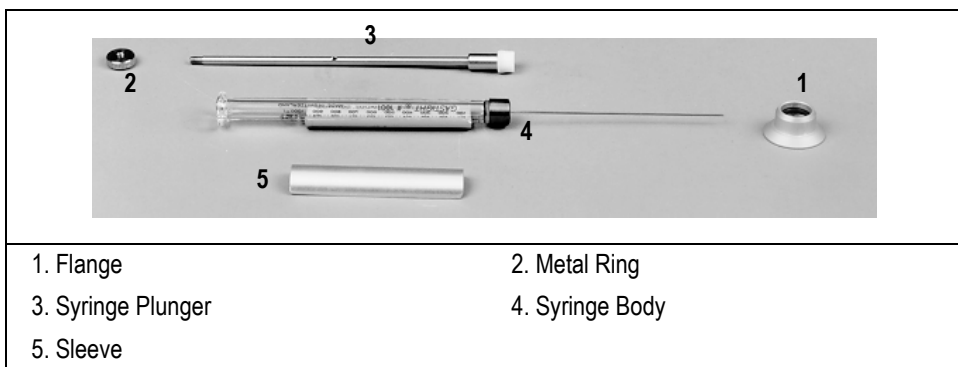

Figure 7-10. Syringe Removal
2. Figure 7-10 shows those parts of the syringe that are removed: